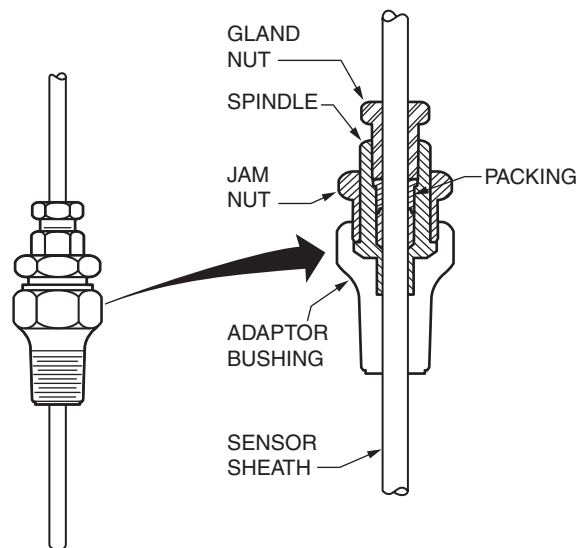

Figure 5. Packing-Gland Coupler
This coupler is for setting the insertion (U) length. It differs from the compression coupler in that it may be reset. The external thread of the bushing is 1/2, 3/4, or 1 NPT. Referring to Figure 5, install the RTD using this coupler as follows: